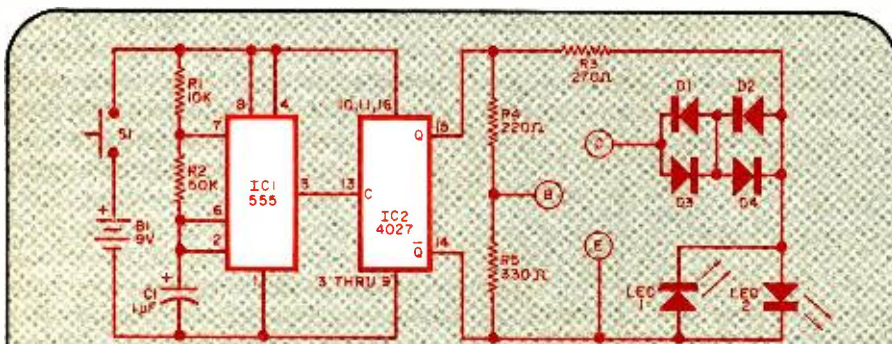

Fig. 1. As shown above, circuit is based on 555 timer operating as a 12-Hz multivibrator.
Circuit Operation. The circuit, shown in Fig. 1, is based on a 555 (IC1) timer operating as a 12-Hz multivibrator. The output at pin 3 drives one flip-flop of IC2. This flip-flop divides the input frequency by two, but more important, delivers complementary voltage outputs at pins 15 (Q) and 14 (not-Q).